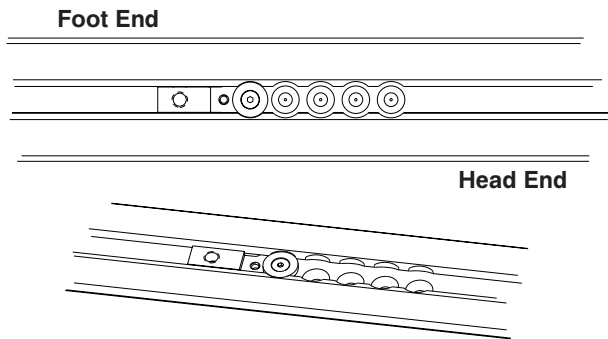
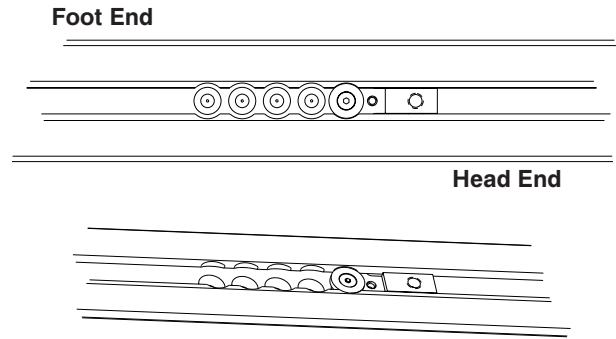

Figure 13: Most Wheel Clearance
Figure 14: Flipping the Bracket
31. Locate the first floor plate attachment bracket (Figure 13) location (near the foot end). This location provides the most wheel clearance.
- Flipping the bracket as shown in Figure 14 moves the mounting location an additional two inches toward the head end.
- Figure 13 shows the location for the most wheel clearance from the bumper. Figure 14 shows the location for the least wheel clearance from the bumper and represents an 8 in (20.3 cm) shift in from the first location. Select the location that provides the appropriate wheel clearance for your set up.